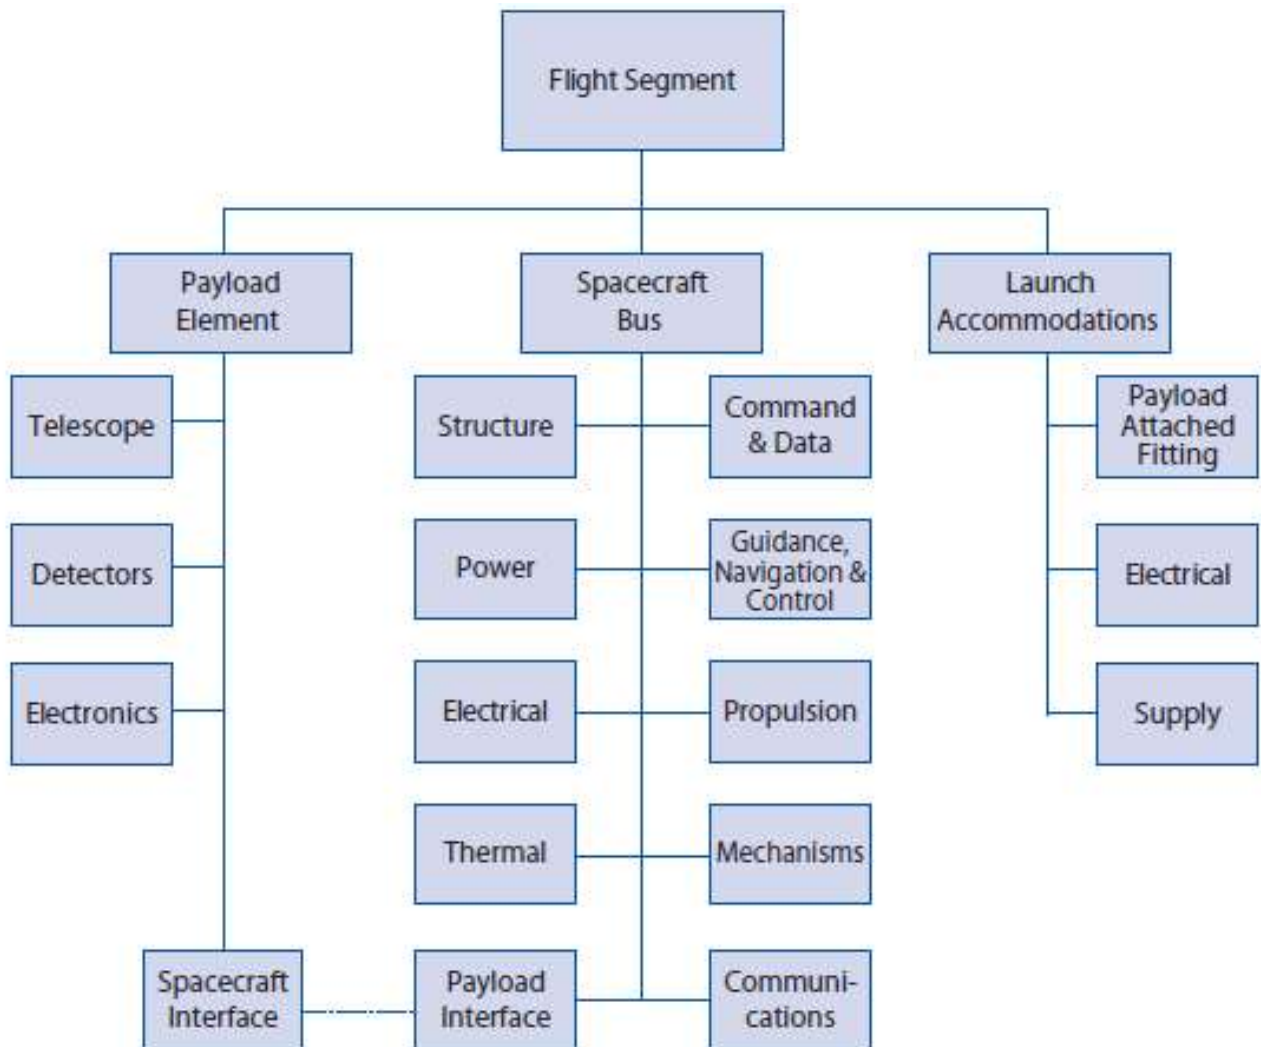

Figure 4.3-2 Example of a PBS
- Product breakdown structure for vehicle (Fig. 4.3-2)